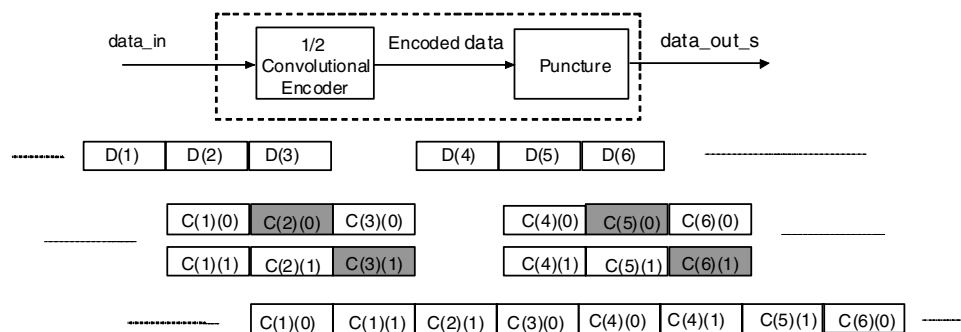

Figure 5: Puncturing Encoded Data with 3/4 Puncture Rate with Single-Channel Output
If the data has been punctured prior to transmission, then depuncturing is carried out externally to the Viterbi Decoder (see Figures 5 and 6). The presence of null-symbols (that is, symbols which have been deleted prior to transmission across the channel) is indicated using the erasure input ERASE. The decoder functions exactly as a non-punctured Viterbi Decoder, except the corresponding DATA_IN inputs are ignored when the erased input bit is high. If ERASE(0) is high, then the input on DATA_IN0 is viewed as a null-symbol. If ERASE(1) is high, then the input on DATA_IN1 is viewed as a null symbol, etc. Although the normal usage of erasure is with a rate 1/2 decoder, the erasure pins can be present for output rates greater than 2. Erasure can be used with the Standard, Multi-Channel and Dual Decoder. Erasure cannot be present on the Trellis-Mode decoder.